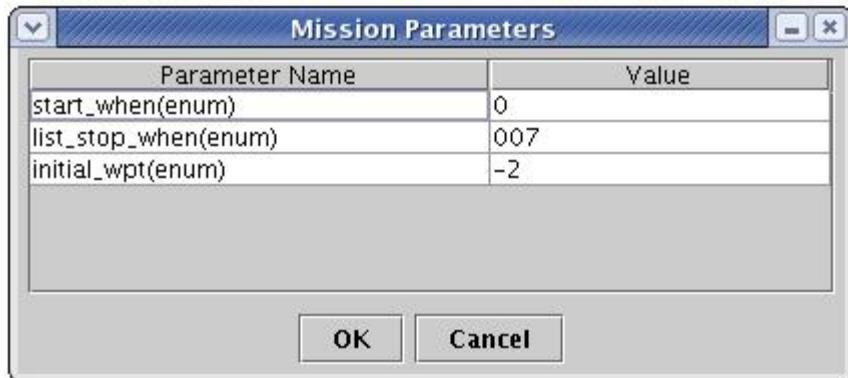

Figure 6-14. Mission Parameters Dialog.
1. Select Missions/Set ‘goto’ parameters. A mission parameters dialog will then appear (similar to that shown in Figure 6-14), enabling the user to change parameter values.